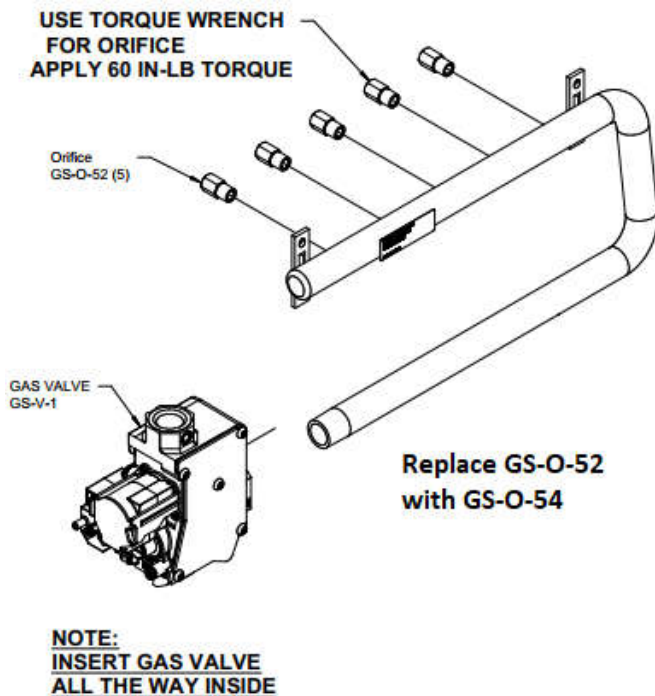

FIGURE 1
- b. Before installation, visually inspect Natural gas high altitude orifices (GS-O-54) for damage and drill size (marked on face with #54). Remove all existing #1.55mm natural gas orifices with a 7/16" box-end wrench and replace with the #54 natural gas high-altitude orifices provided in the kit, refer to figure 1. Use a box-end wrench to tighten orifices; do not cross-thread or over-tighten. The orifice size is determined by the amount of gas used in the installation as well as the altitude.